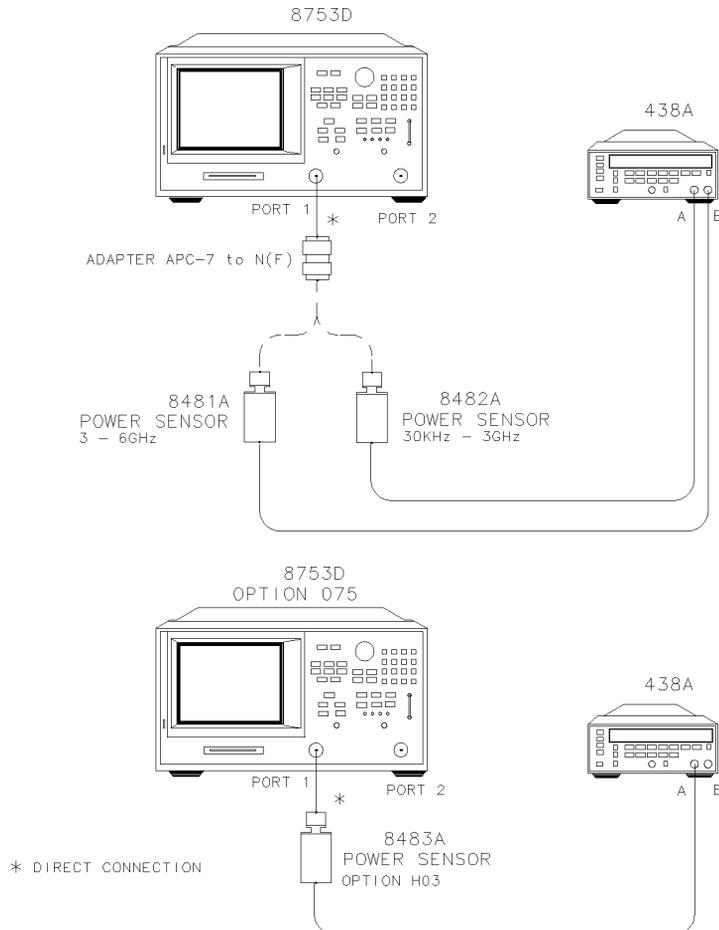

Figure 4-4. Test Port Output Power Range and Accuracy Test Setup
- 3 Connect the equipment as shown in Figure 4-4.